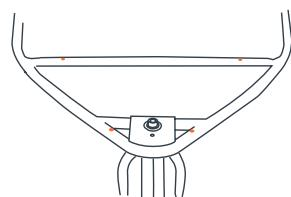

Fig. 5b
• These tubes must be lined up with the holes in the front frame assembly (Fig. 5b).